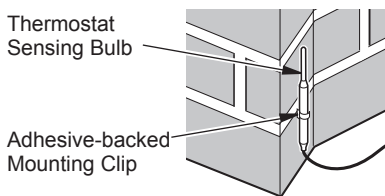
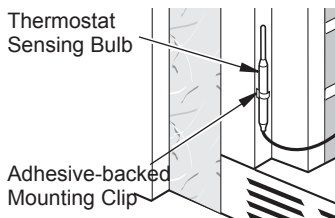
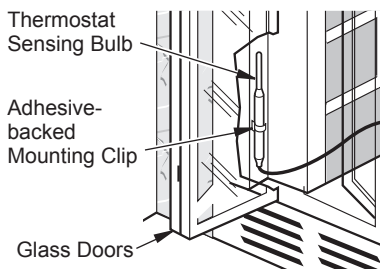

Figure 45 - Locating Thermostat Sensing Bulb on Masonry Fireplace
Figure 46 - Locating Thermostat Sensing Bulb on Factory-built Metal Fireplace
Figure 47 - Installing Thermostat Sensing Bulb Behind Glass Doors
3. The thermostat sensing bulb may be located to the lower right front side of fireplace. Determine location of sensing bulb, but do not mount sensing bulb until step 4. If you have a masonry fireplace, see Figure 45 for location. If you have a factory-built metal fireplace, see Figure 46 for location. If your fireplace has glass doors, position sensing bulb directly behind door gap on right bottom side (see Figure 47).